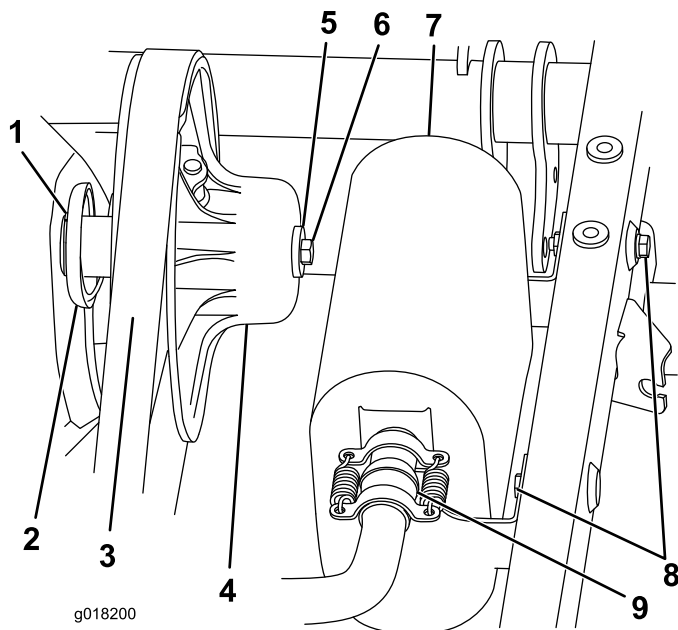

Figure 8
3. Disconnect the two springs securing the muffler to the exhaust system, remove the two fasteners securing the muffler to the frame, and remove the muffler (Figure 8).
4. Remove the belt from the secondary clutch (Figure 8).
5. Remove the bolt and step washer securing the clutch and pull the clutch off of the transaxle (Figure 8).